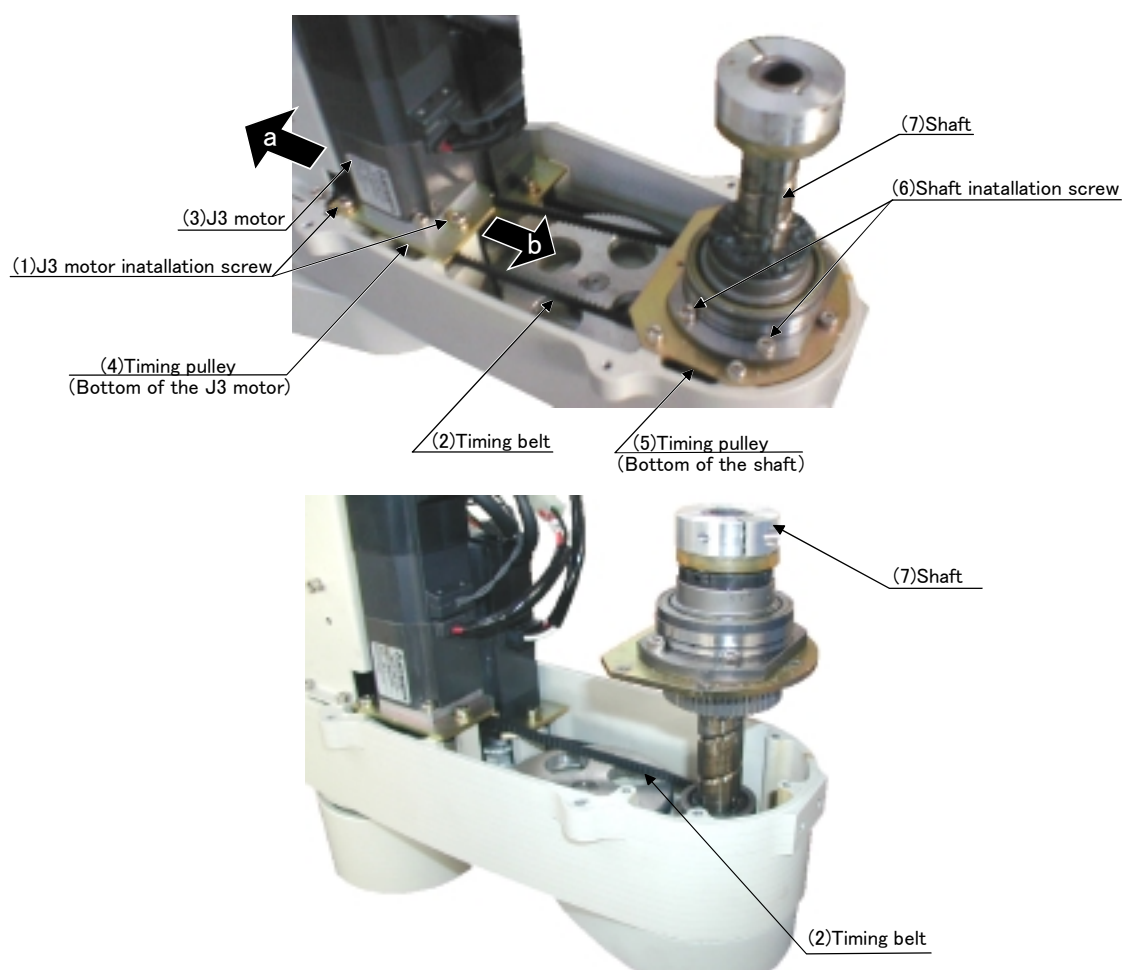

Fig.5-4 : Inspection, maintenance and replacement of J3-axis timing belt
- 1) Fig. 5-4 shows the methods for inspecting, adjusting and replacing the timing belt.
- 4) Be careful not to let the timing pulley (4) on the J3 axis motor move while the belt is being changed.
- 5) If the pulley (4) and (5) position relation deviates, the position could deviate.
- 6) Loosen the J3 motor installation screws (1) to lift the J3 motor (3) upward and remove the timing belt (2) from the timing pulley (4).
- 7) Loosen the shaft installation screws (6) to lift the shaft upward and remove the timing belt (2) by lifting it from the bottom spline section. (Refer to Fig. 5-4.)
- 8) Install a new timing belt on the timing pulleys (4) and (5) in the reverse order of the procedure described in steps 6) and 7) above.
- 9) With the J3 axis touching the upper mechanical stopper, hook the timing belt (2) around the timing pulleys (4) and (5).
- 10) Perform tension adjustment according to steps 3) to 6) in " ■ Adjusting the J3 axis timing belt" and "(4) Timing belt tension" on page 51.